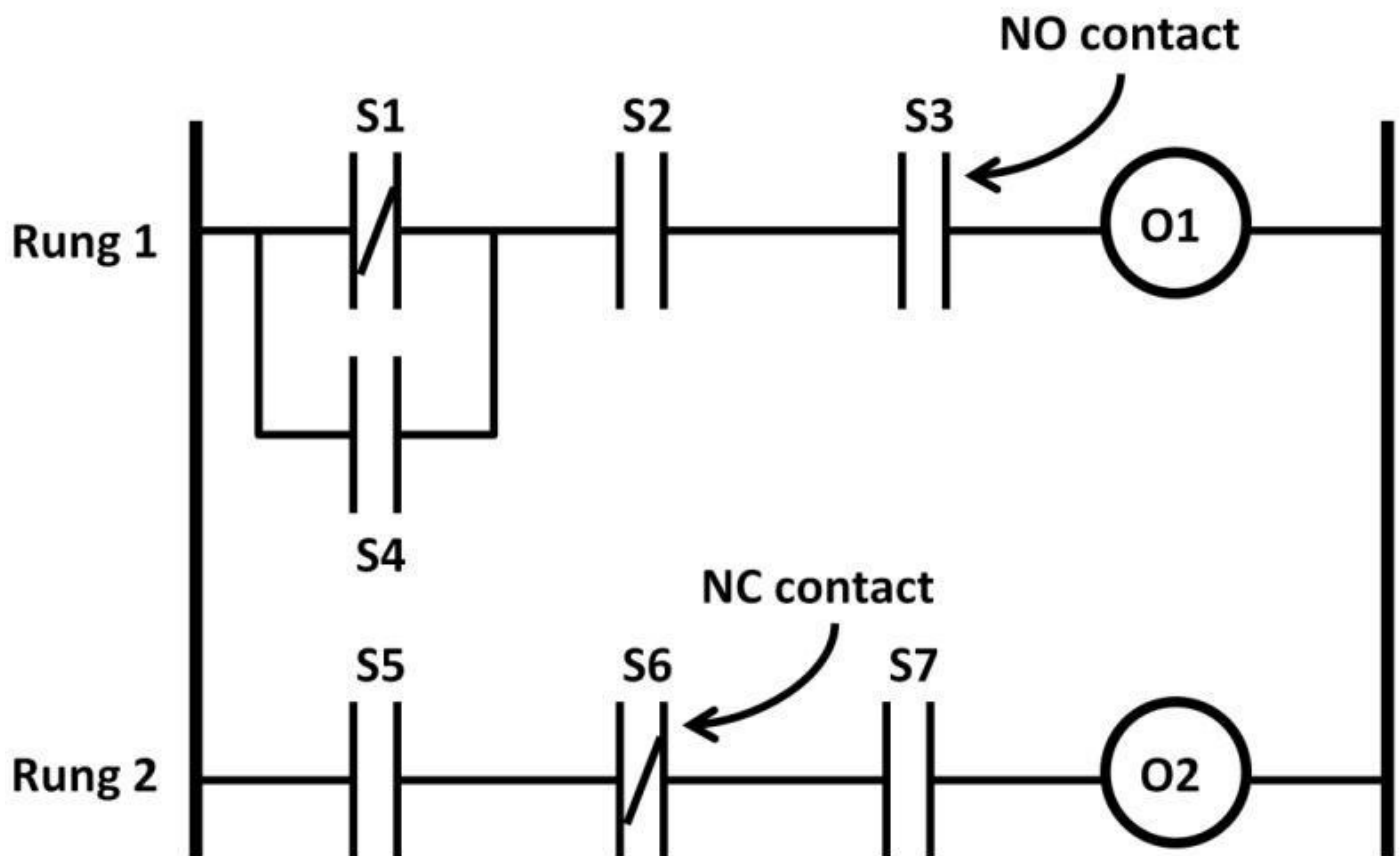

Figure 8.8: PLC Ladder logic program
such as Ethernet or RS-232. End users can then run, control, and execute the programs using the programming device. During program execution, while the PLC connects to the programming device, it reports the program status back to the programming device and displays it on the computer screen for troubleshooting and debugging purposes. When the PLC programs execute, they operate in repetitive loops. First, the CPU reads the status of all input devices. Then it executes the PLC program. Finally, the PLC programs update and control the output devices. This process continues until the program is paused or stopped by the programmer or end user. The programming device serves as a platform for PLC designers to enter ladder logic programs in program mode. In the field, hand-held devices are used in place of programming devices providing portability benefits. A ladder logic program could include many elements such as normally-open (NO) and normally-closed (NC) contacts, output symbols, and logical functions. An NC contact has a forward slash symbol in it. Figure 8.8 shows an example of a ladder logic program, which is entered by the designer. The program is stored in the program memory of the PLC. In this example, each horizontal branch is called a rung which comprises contact and output symbols. S1 to S4 are on rung 1. S5 to S7 are located on rung 2. A contact can be either normally-open or normally-closed contacts (further explanations will follow shortly). It is possible to add a parallel branch on a rung. S1 and S4 form a branch instruction. The circles on the right end of each rung are the output symbols representing the output devices. These output symbols ultimately control the output device via the PLC's output terminals. The CPU processes a ladder logic program stored in the memory, one rung at a time, starting from the top of the program and reading the inputs of contacts from left to the right.